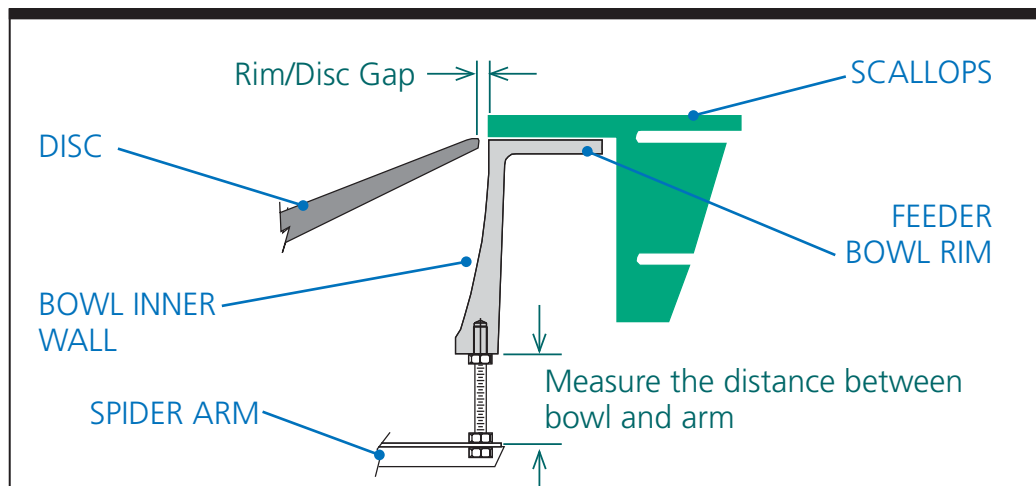

Figure 5-1. Measuring Bowl Gap When Replacing Standard Bowl
- ➡ If machining enlarges the inner diameter of the bowl, you may need to replace the disc with a larger one (custom-sized) from your direct supplier. If you do not obtain a larger disc, the gap between the disc and the inner diameter of the bowl may pinch or snag product (see Figure 5-1).
Step 1—Measuring and Removing the Bowl. Measure the height between the bottom of the bowl, and the top of the spider arm (where the threaded rod connects the two parts - see Figure 5-1). Loosen and remove the bottom nut on the spider arm (on each of the eight (8) arms) and remove the bowl - pulling it up and away from the feeder.